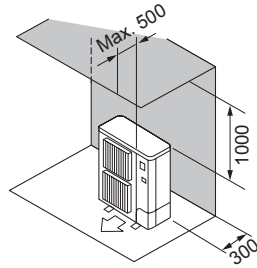

Fig. 2-4
- ② Obstacles at rear and above (Fig. 2-4)